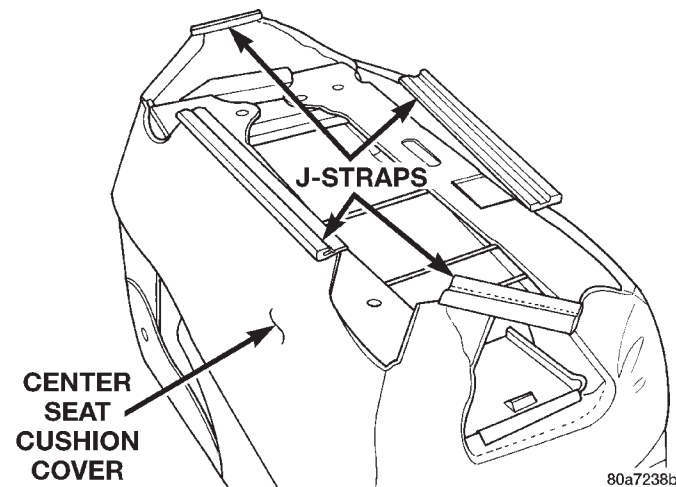

Fig. 5 Center Seat Cushion/Cover
- (1) Remove the bucket seats.
- (2) Separate the center seat from the bucket seats.
- (3) Remove the armrest/seat back.
- (4) Disengage the J-straps from the cushion frame (Fig. 5).
- (5) Separate the cushion/cover from the frame.